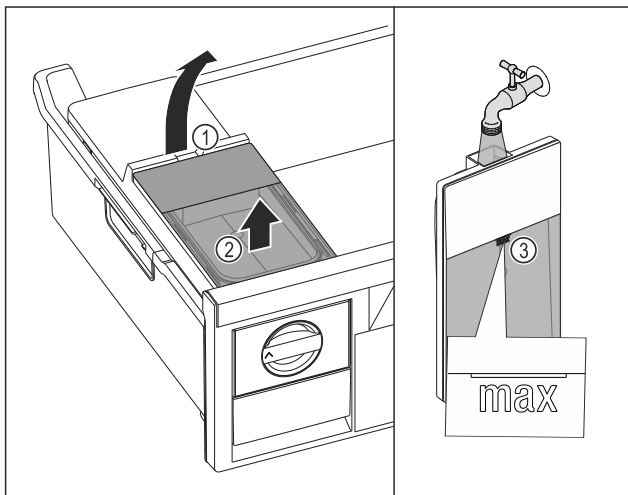

Fig. 76
- ▶ Lift the water tank at the recess Fig. 76 (1).
- ▶ Remove the water tank by lifting it upwards. Fig. 76 (2)
- ▶ Fill the water tank with drinking water up to the mark Fig. 76 (3).